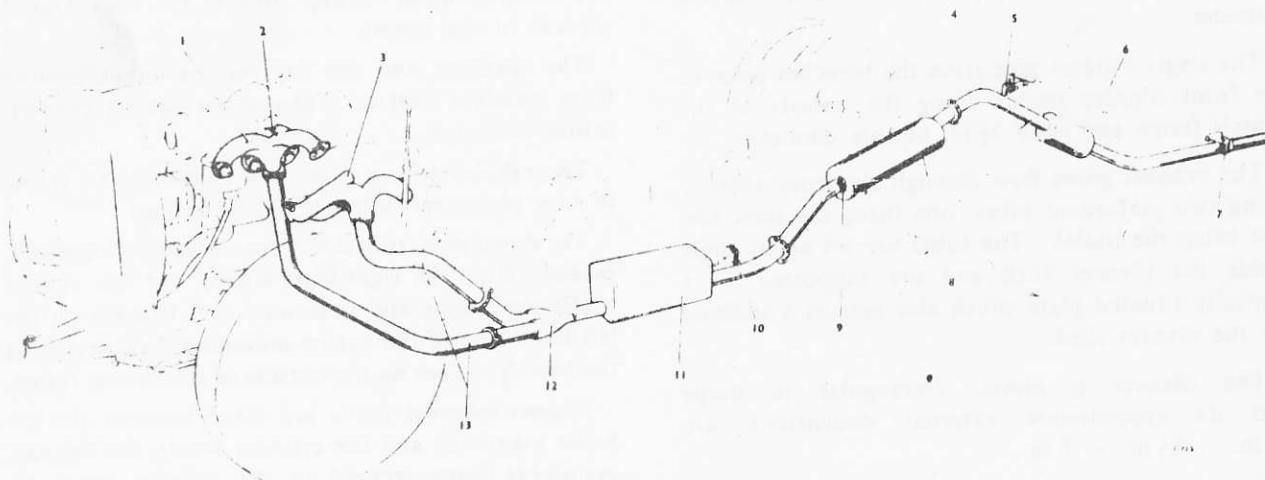

Fig. Q1 (S) Exhaust system—S3 cars (except Phantom V)
Remove the two union nuts attaching the choke stove pipes to the right-hand side exhaust manifold (see Fig. Q1 (S) of this Supplement).
Remove the bridge clamps from the outlet pipe of the front silencer (see Fig. Q1 (S) of this Supplement).
Support the rear silencer while removing the setscrew securing the silencer bracket to the 'Vibrashock' mounting (see Fig. Q1 (S) of this Supplement).
Remove the setscrew securing the tailpipe bracket to the 'Vibrashock' mounting (see Fig. Q1 (S) of this Supplement).